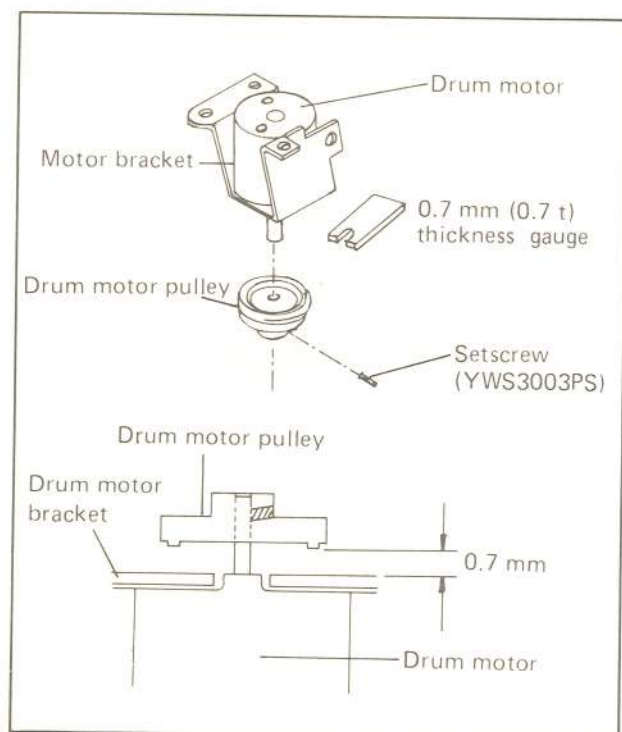

Fig. 4-24
3. When mounting the motor pulley to the replacement DC motor, set 0.7 mm thickness gauge between motor and motor pulley as shown in Fig. 4-24. After replacement, verify the belt running position in Play mode. Also perform adjustment of drum servo circuit. (Refer to section 5.3.)